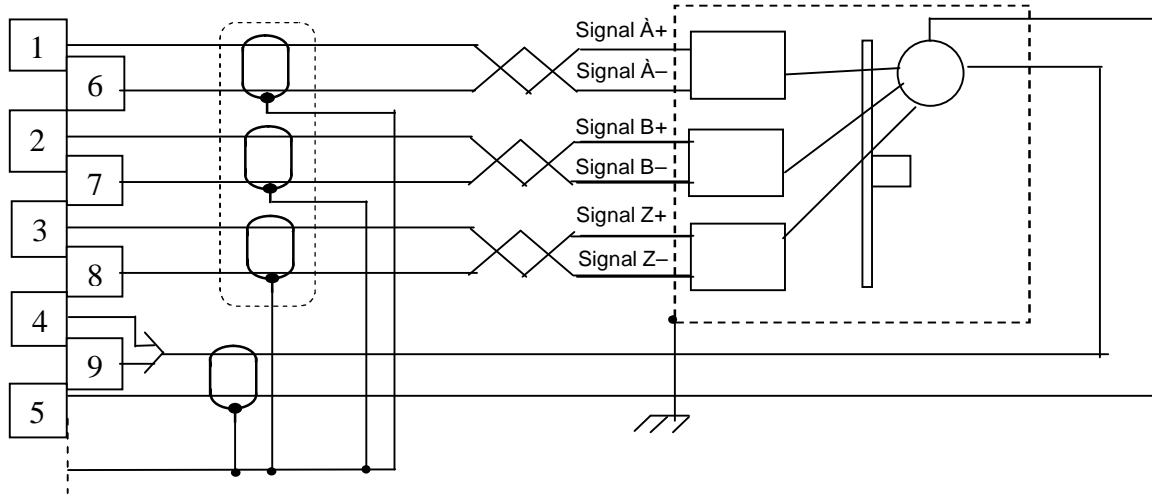

Figure 5.6
5.4.2.6 Encoders are connected to the CNC Unit according to the diagram presented in Figure 5.6. For communication between the encoders and the CNC Unit a cable with a wave resistance of 120 Ohm must be used.